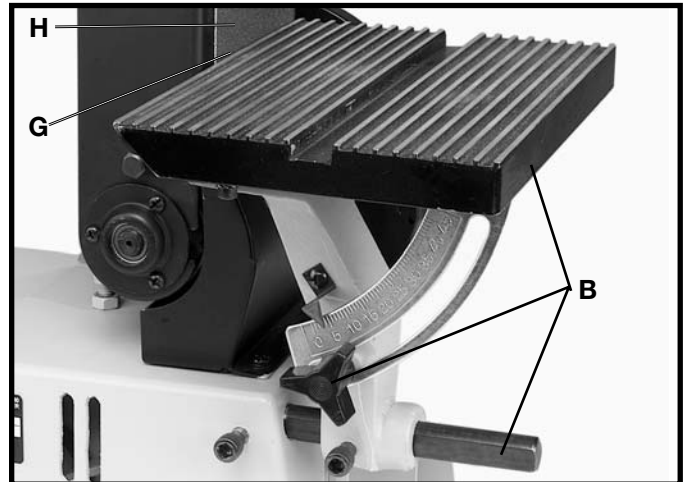

Fig. 37
5. Fig. 37, illustrates the table assembly (B) assembled to the belt unit.